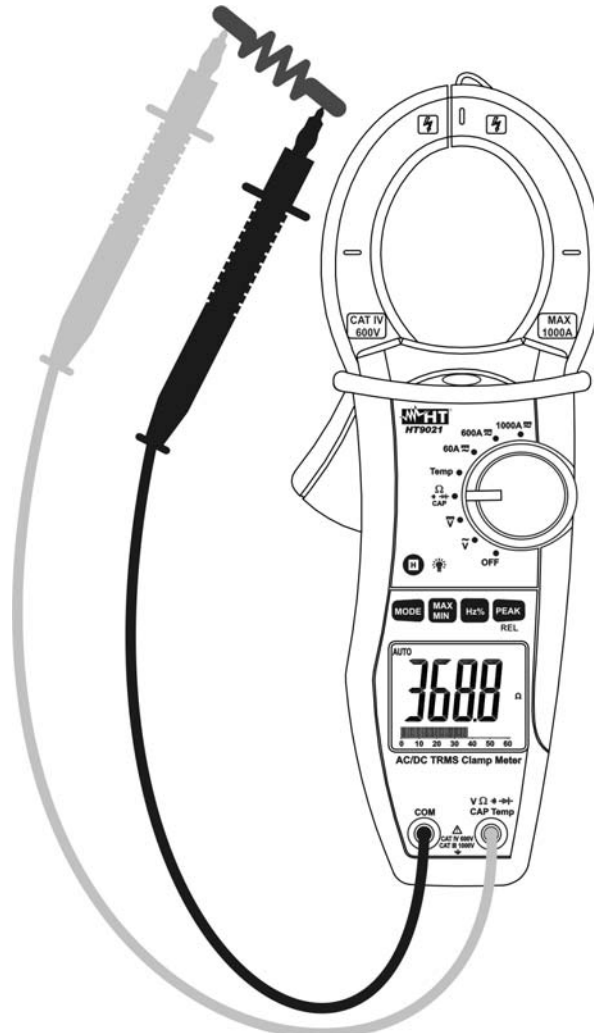

Fig. 5: Taking Resistance measurement
2. Insert the red test lead plug into $V \Omega \cdot \text{CAP Temp}$ \rightarrow **CAP Temp** jack and the black test lead plug into **COM** jack (Fig. 5)